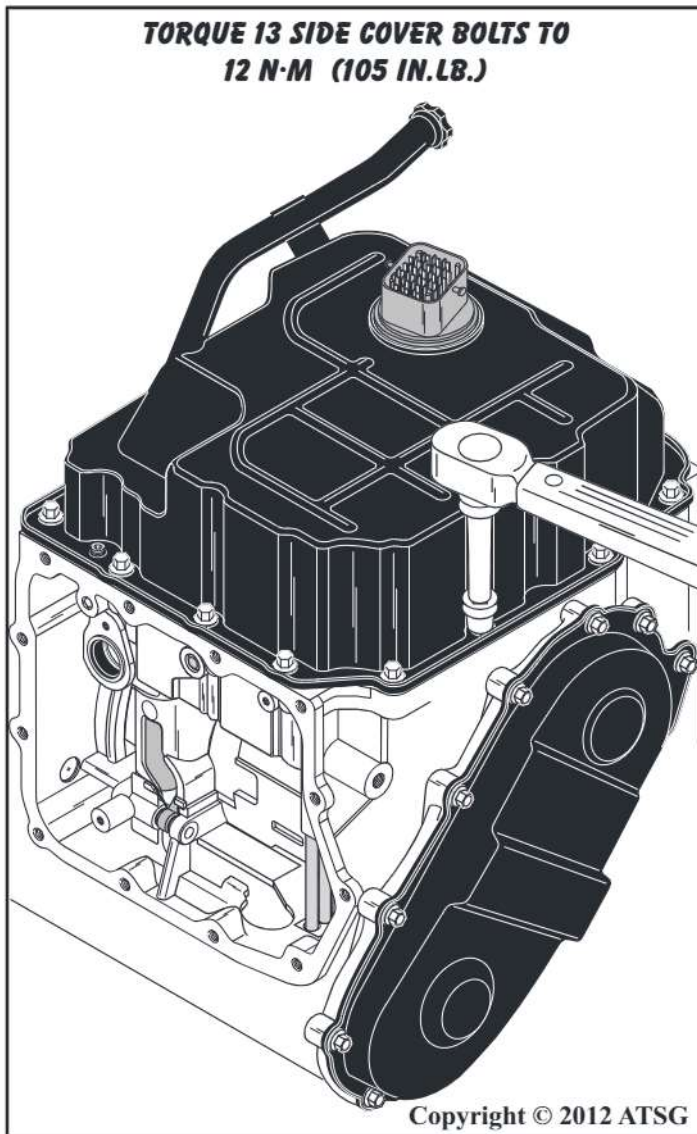

Figure 285
95. Torque the valve body side cover bolts to 12 N·m (105 in.lb.) (See Figure 285).